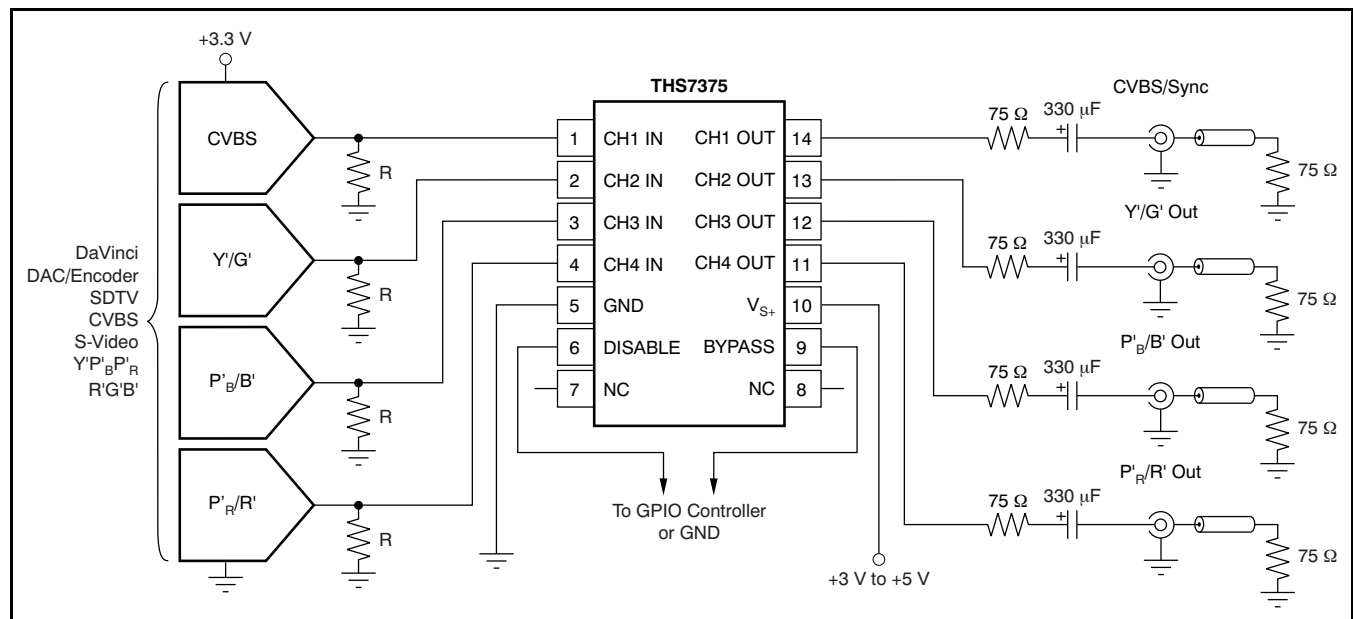

Figure 48. Typical SDTV CVBS/ $Y'P'_BP'_R$ Inputs from DC-Coupled Encoder/DAC with AC-Coupled Line Driving
A typical application circuit that uses the THS7375 as a video buffer is shown in Figure 48. It shows a DAC or encoder driving the input channels of the THS7375. One channel is a composite video (CVBS) channel of a standard definition (SD) video system. The other channels are the component video $Y'P'_BP'_R$ (sometimes labeled $Y'U'V'$ or incorrectly labeled $Y'C'_B'_R$) signals of a 480i or 576i system. These channels could easily be the S-Video Y'/C' channels or the $R'G'B'$ channels of a SCART system.